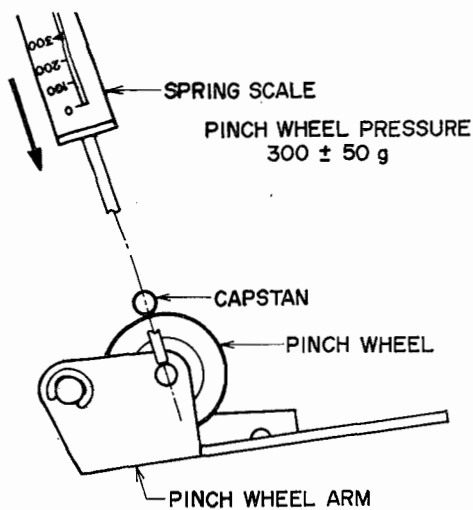

Fig. 23
13. PINCH WHEEL PRESSURE MEASURING METHOD (See Fig. 23)
As shown in Fig. 23, at playback mode, press the pinch wheel arm toward shaft with a spring scale, and when the pinch wheel separates from the capstan, read the spring scale indication.